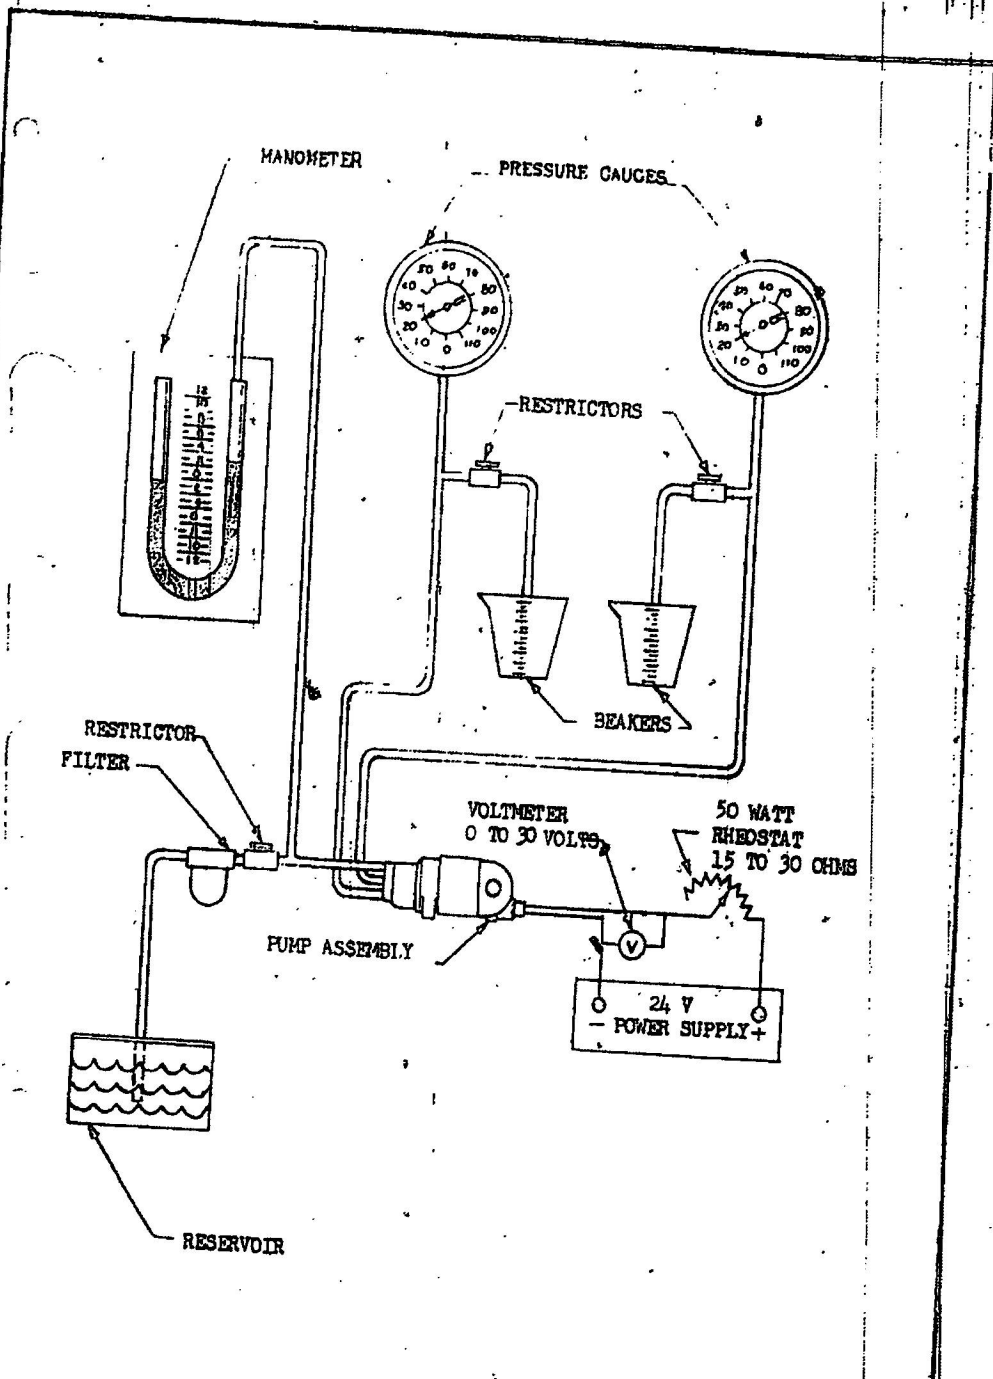

FIGURE 1.
- (e) Functional test the unit on a test stand which incorporates equipment as illustrated in Figure 1 of this specification. Fluid used for testing shall be anti-icing fluid conforming to Specification AN-F-13. Connect the pump to the system and allow the pump to prime fully and warm up before conducting the test. Leave all restrictors wide open during warm-up.